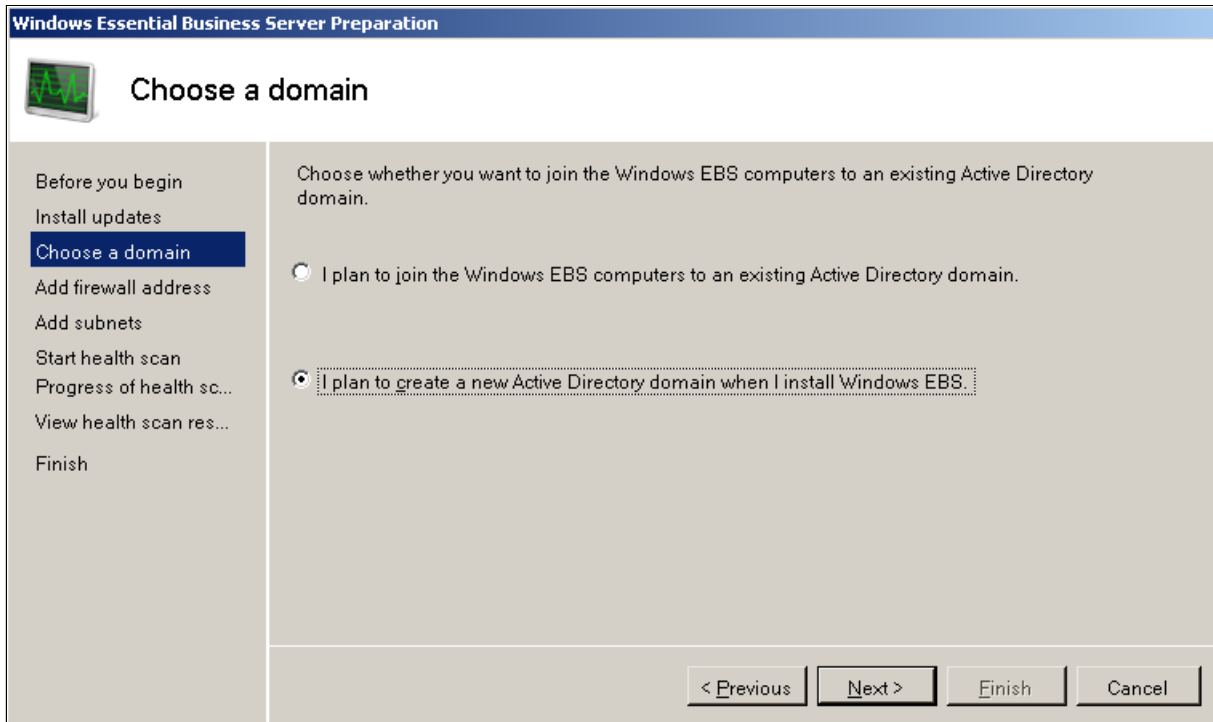

Figure 3-3 Choosing domain
3. On the “Choose a domain” panel (Figure 3-3), select whether you are installing Windows Essential Business Server into an existing domain environment or creating a new one. In our test environment, we created a new network. We selected the **I plan to create a new Active Directory domain when I install Windows EBS** radio button. Click **Next**.